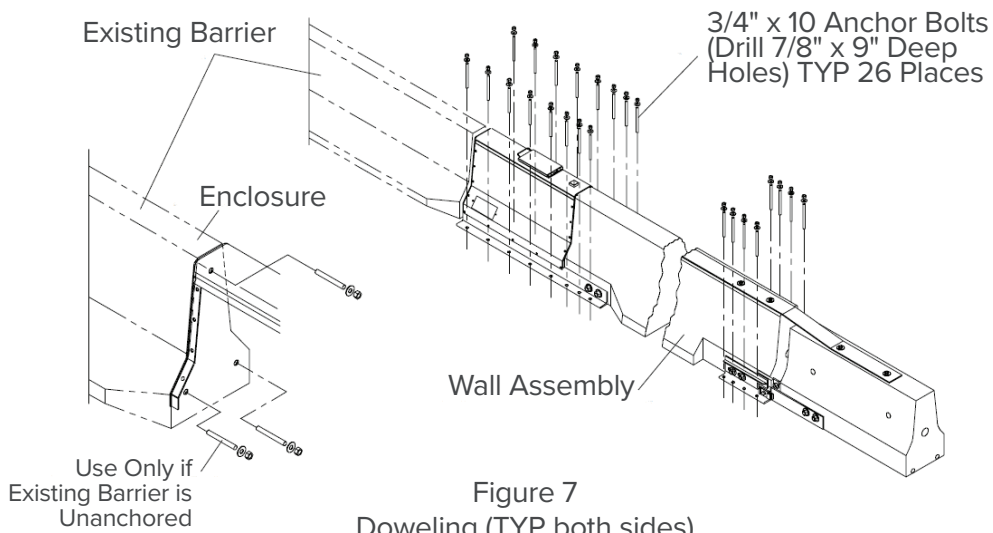

Figure 7
3. Anchor the wall assemblies to the foundation (Figure 7).